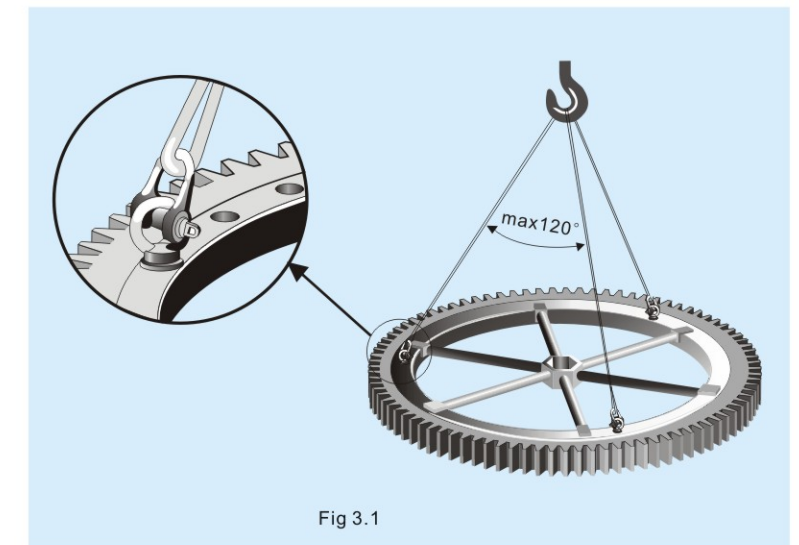

Fig 3.1
- The slewing bearing should be horizontally placed on the lifting tools or transportation vehicles (automobile, ship, plane etc.). No external force in the radial direction is allowed, which could cause the deformation of the slewing bearing. If necessary, auxiliary supports could be added on the inner diameter direction (See Fig.3.1).